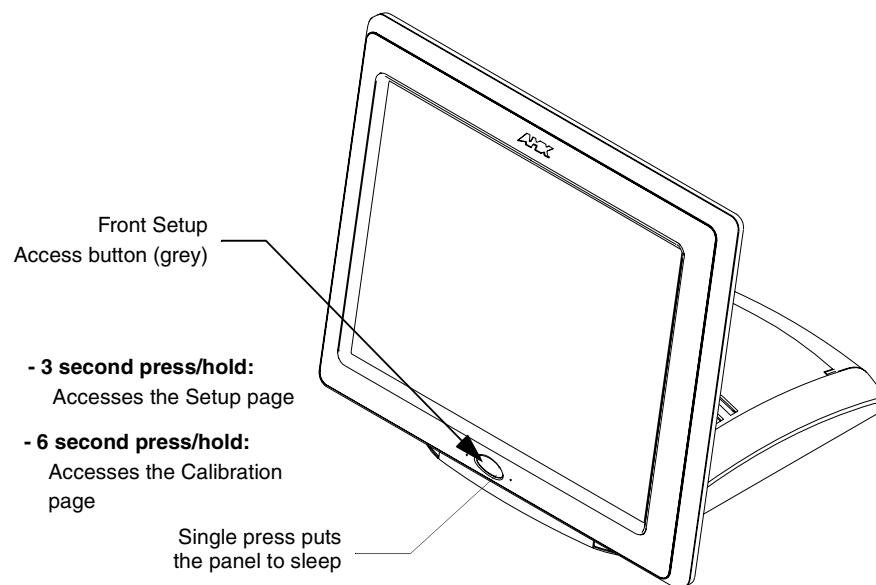
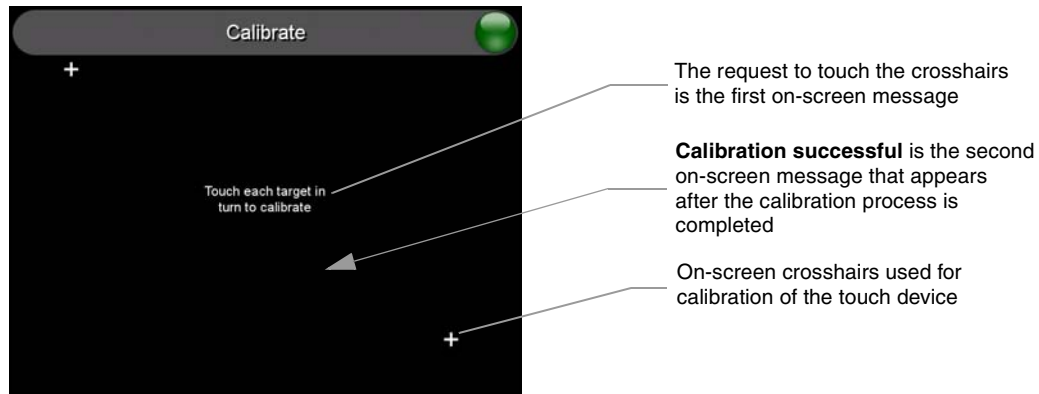

FIG. 47 Location of grey Front Setup Access button
FIG. 48 Touch Panel Calibration Screens
1. Press and hold the grey Front Setup Access button (FIG. 47) for **6 seconds** (passing-over the Setup page) to access the Calibration setup page (FIG. 48). *The panel should first be calibrated properly.*
2. Press the crosshairs (on the Calibration page) to set the calibration points on the LCD (FIG. 48).